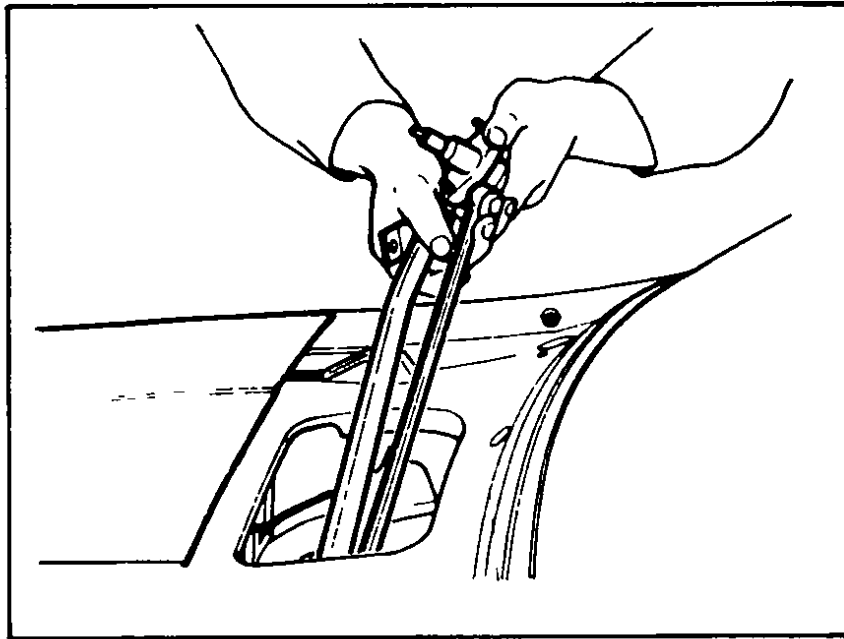

Fig 86 Removing linkage assembly
- 7 Remove the flange nuts attaching the pivot to the cowl top panel and take out the linkage assembly, Figs 86 and 87